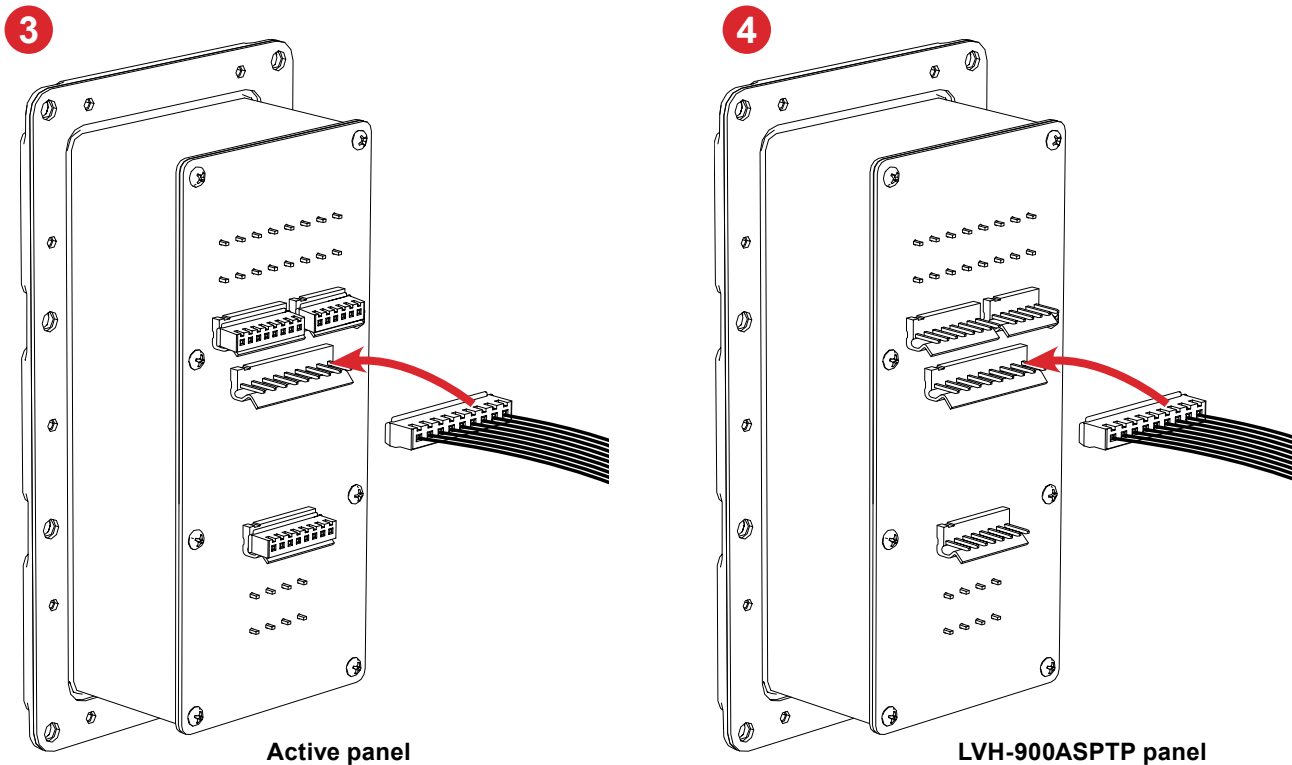

Figure 11. Plug into panels
4. Plug the harness into the PTP panel and set both input panels back in the cabinet. (Figure 11)